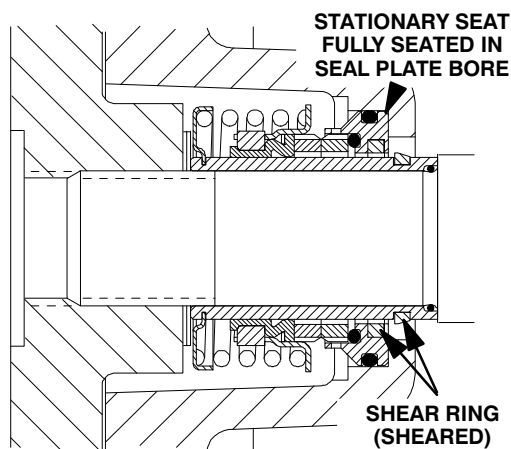

**Figure 8. Seal Partially Installed**
Clean and inspect the impeller as described in **Impeller Installation and Adjustment**. Install the full set of impeller shims (3) provided with the seal, and screw the impeller onto the shaft until it is seated against the seal (see Figure 8).